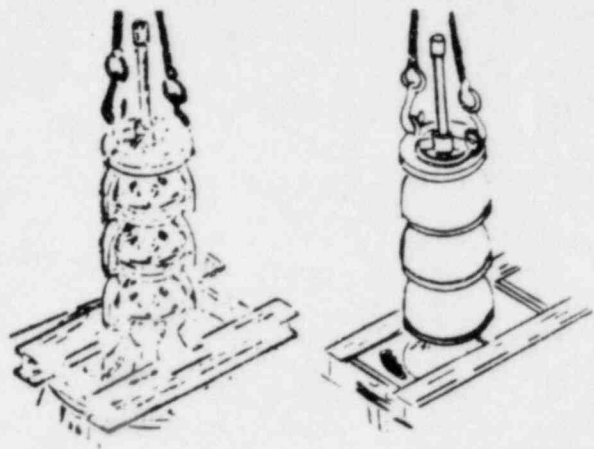

Figure 6-1. INSTALLING BOWL ASSEMBLY
A. Place two I-beam supports across the base plate opening strong enough to safely support the weight of the entire pump assembly. These I-beams should be connected by threaded rods and nuts so as to clamp them firmly against the portion to be supported. See figure 6-1.
B. Thread two eyebolts through bolt holes in the flange, and hoist into position over the foundation, (see figure 6-1).